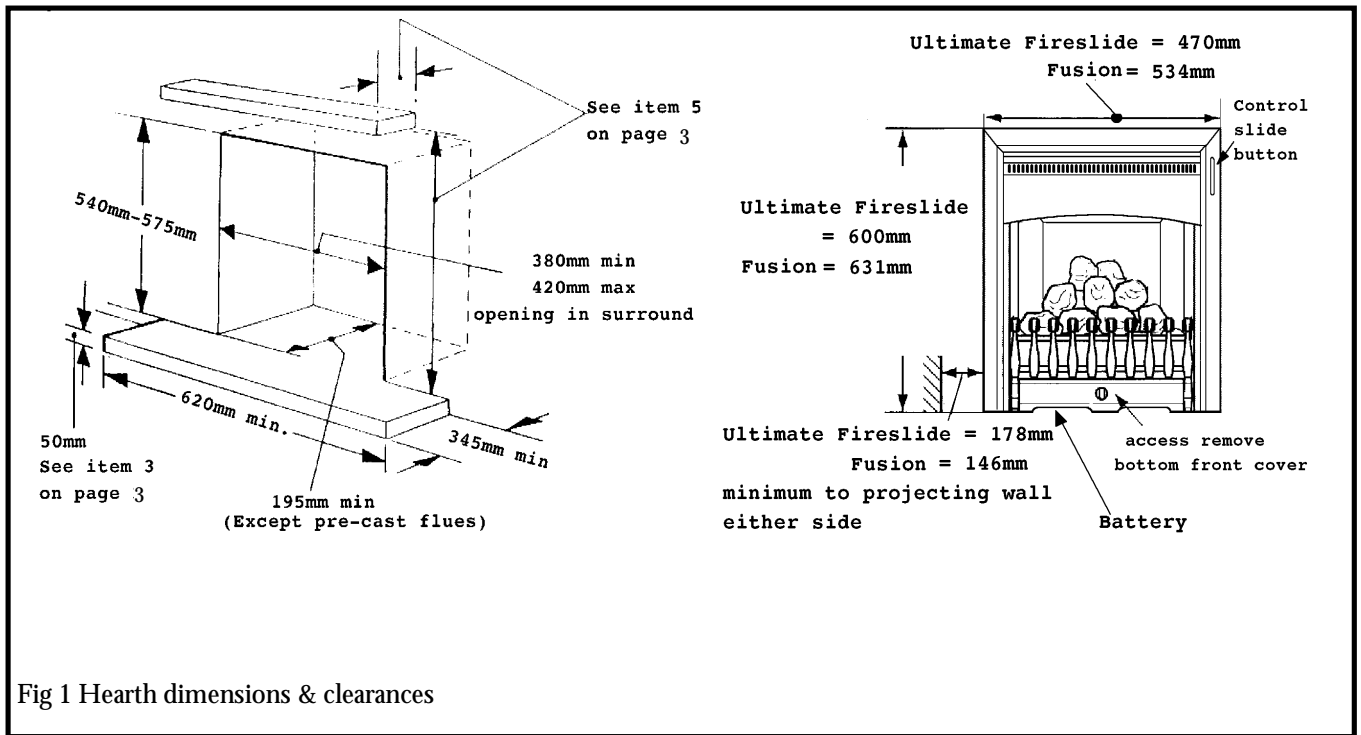

Fig 1 Hearth dimensions & clearances
3. On no account must the fire stand on carpets or other combustible materials. The fire must stand behind a non-combustible hearth surface. The hearth material must be at least 12.5mm thick. Its top surface should be 50mm above floor level to discourage placing carpets. Rugs or other combustible materials over the hearth. The minimum size of the hearth is shown in figure 1.
4. If the fire is intended to be installed against a wall with combustible cladding, the cladding must be removed from the area covered by the outer surround (see figure 1).